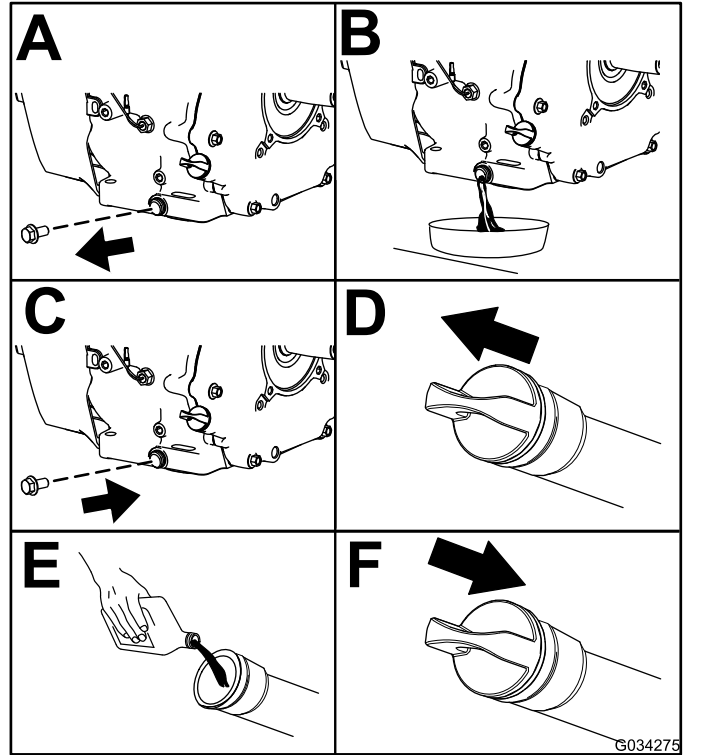

Figure 40
4. Change the engine oil as shown in Figure 40.